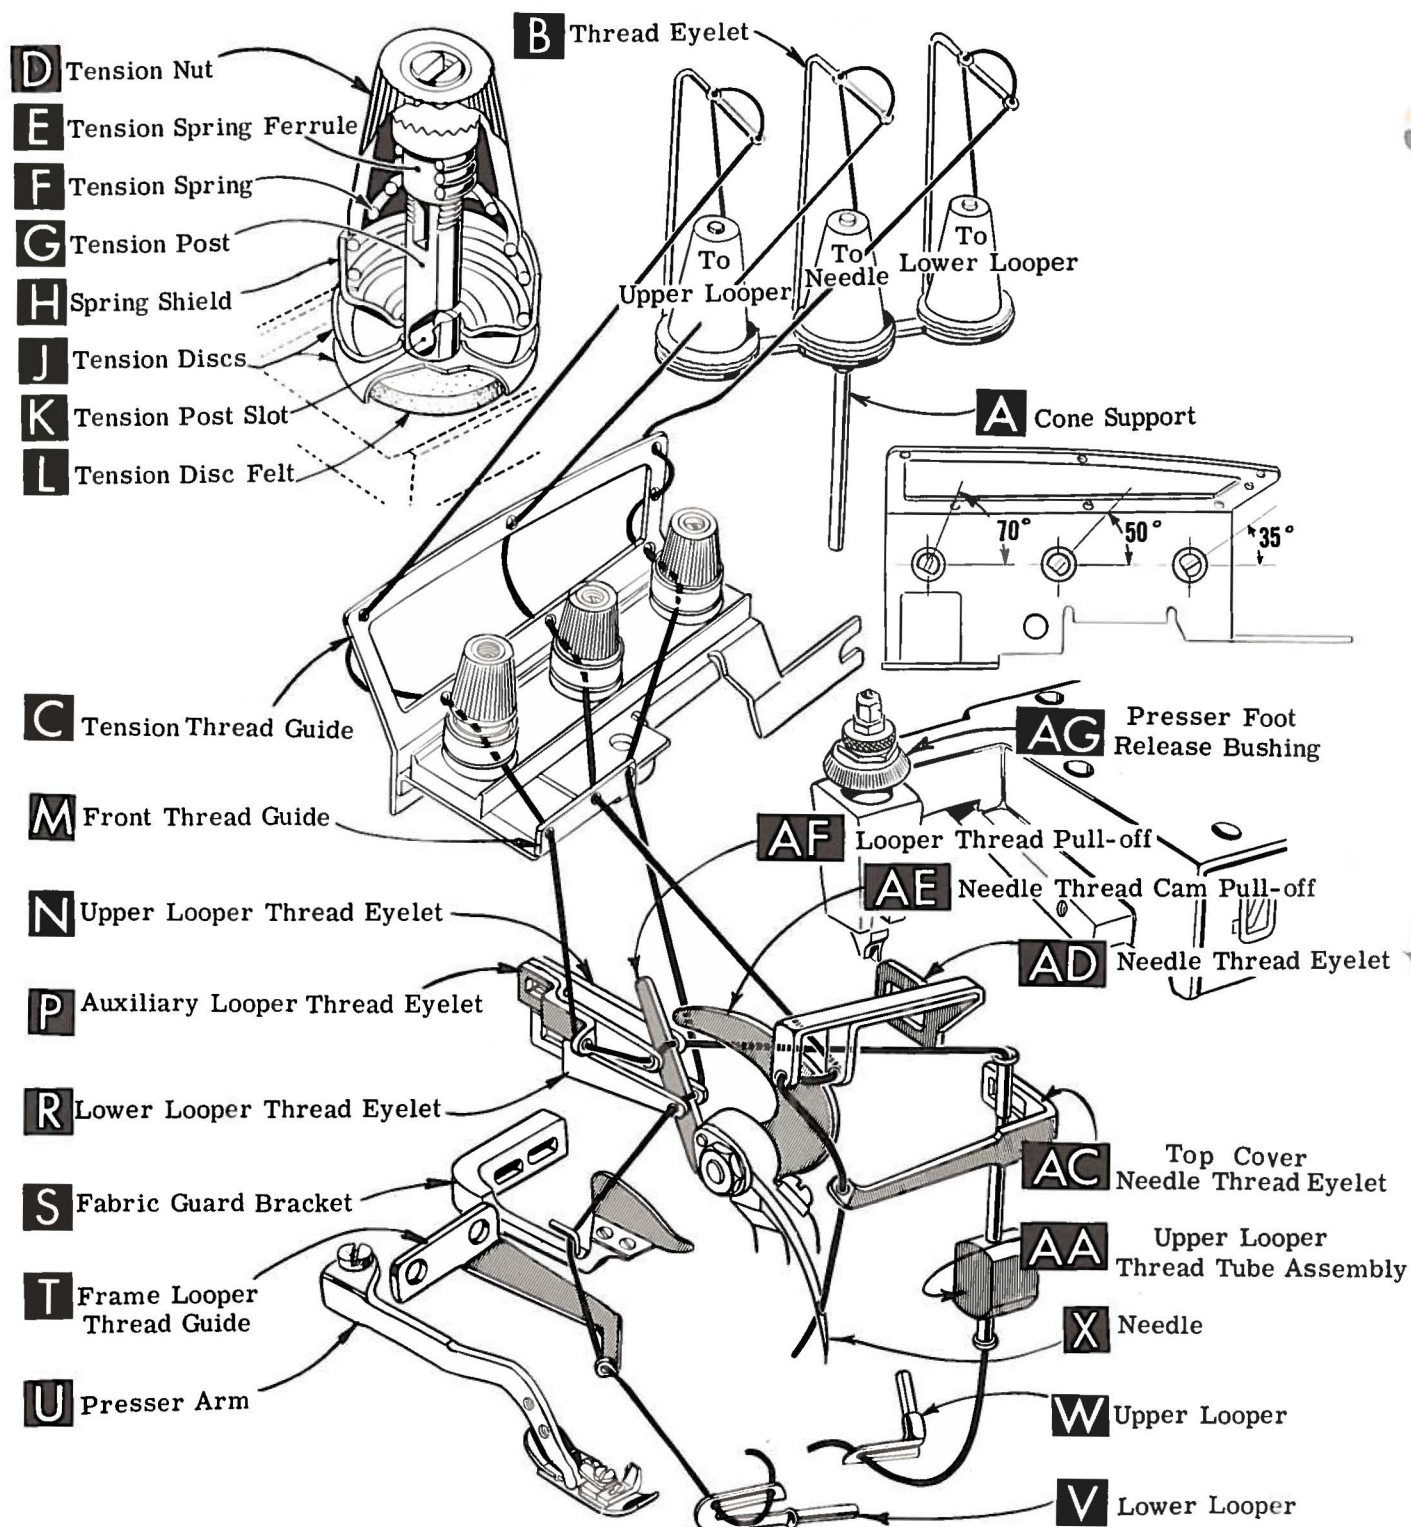
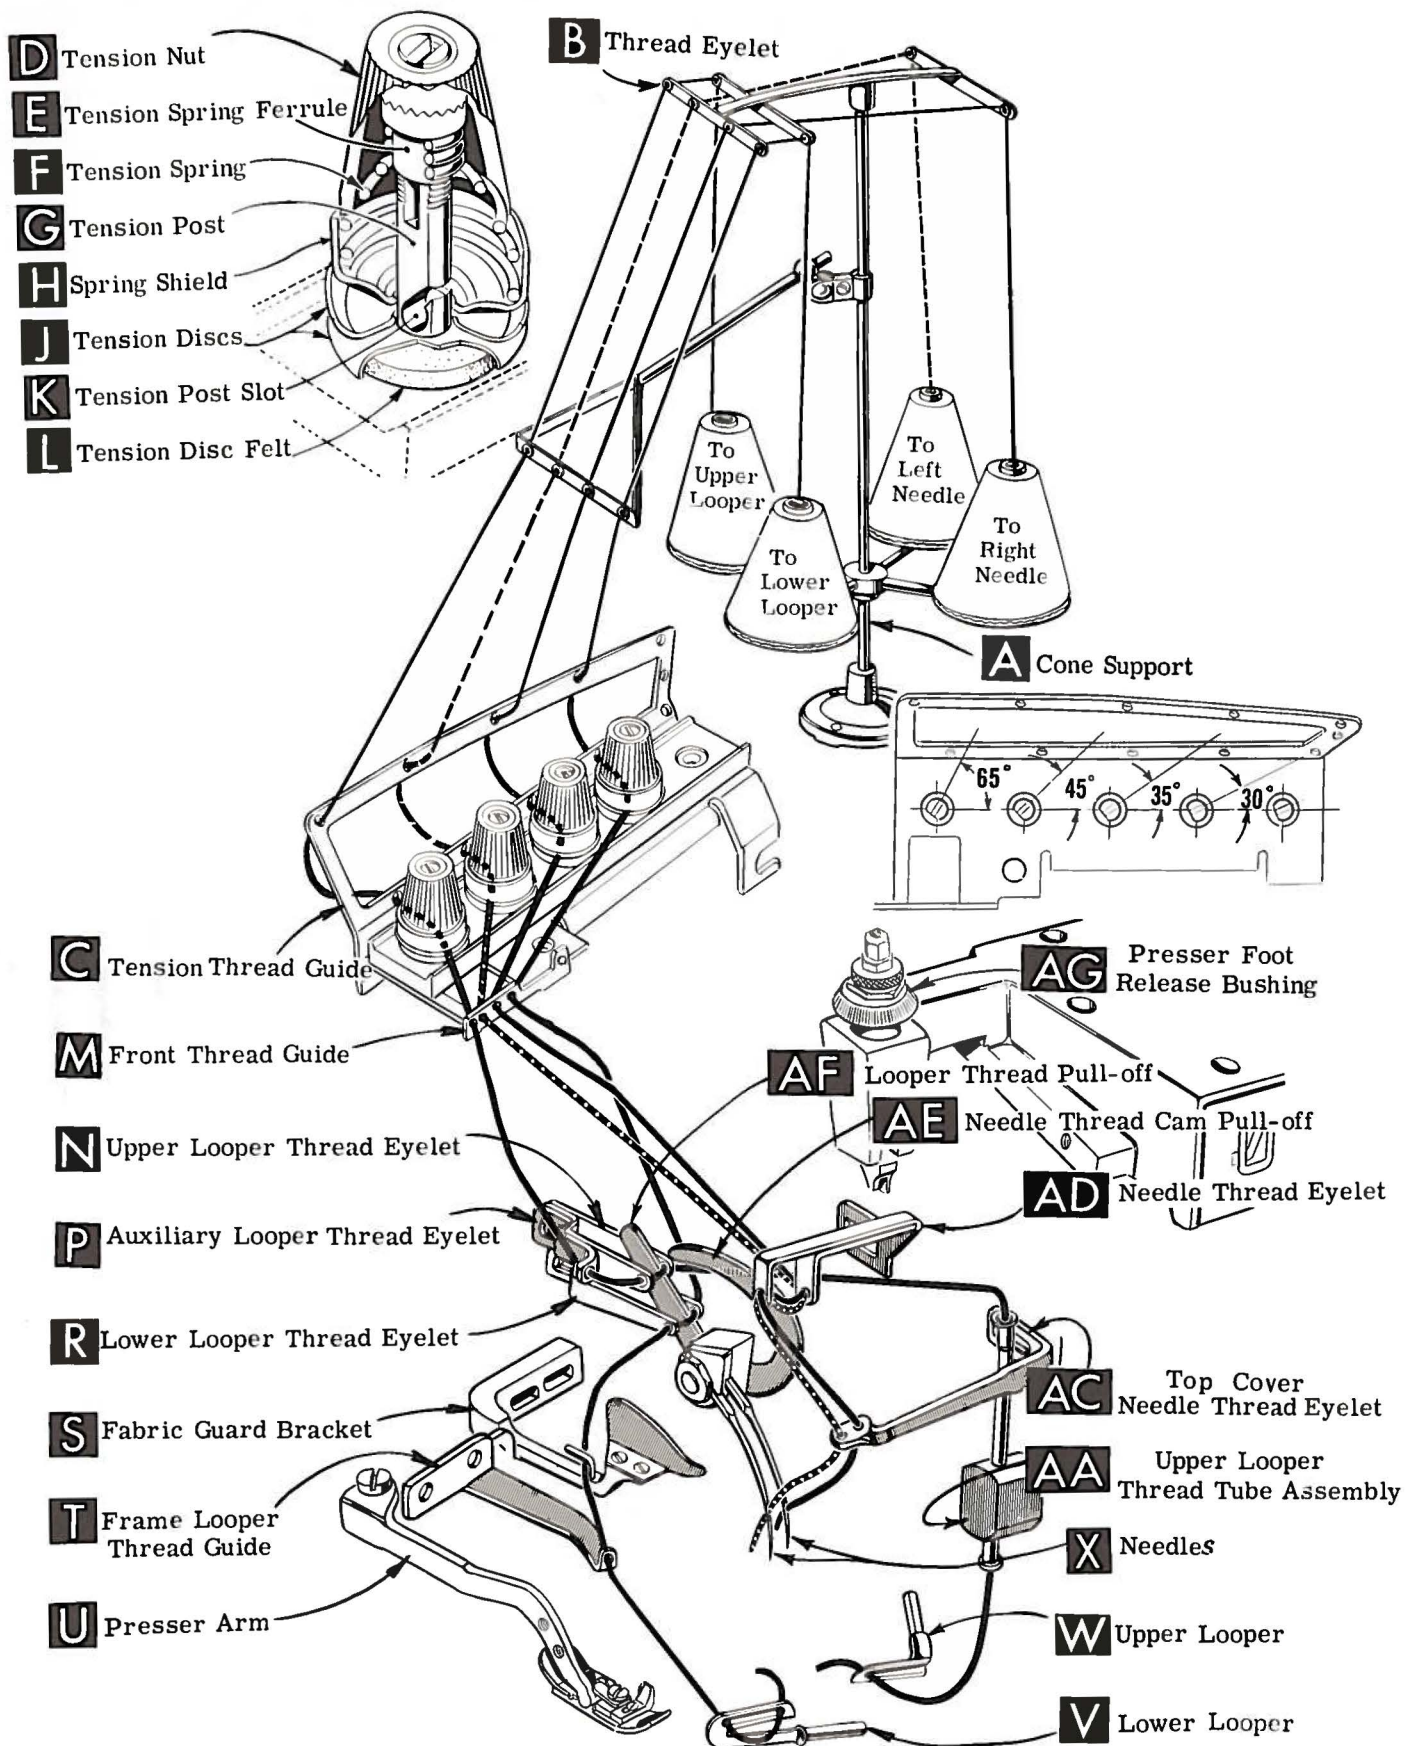

Fig. 1
Fig. 1A
Release pressure on presser foot by turning presser foot release bushing (AG, Fig. 1 and 1A) and swing presser arm (U) out of position. Turn handwheel in operating direction until needle is at its lowest point of travel. Using hexagonal socket wrench No. 21388 AU, furnished with machine, loosen needle clamp nut about 1/4 turn. Again turn handwheel until needle is at high position; withdraw needle.
After thread comes from cones on cone support (A, Fig. 1), it is brought up through back hole of thread eyelet (B), then down through the front hole of thread eyelet. Next it is threaded through the upper holes of tension thread guide (C) from front to back and then through the lower holes from back to front. It should be noted that the lower looper thread is threaded through the tension thread guide (C), first through the upper hole back to front, second through the middle hole front to back and third through the lower hole back to front. All threads then continue between the tension discs (J), through tension post slot (K) in tension post (G) and on through front thread guide (M).
After thread comes from cones on cone support (A, Fig. 1A), the needle threads are threaded through the back bar of the thread eyelet (B), under the middle bar and through the center holes of the front bar. The looper threads come from the cones, through holes of the middle bar from back to front and then through the two outside holes of the front bar. Next it is threaded through the upper holes of tension thread guide (C) front to back and then through the lower holes from back to front. The threads continue between the tension discs (J), through tension post slot (K) in tension post (G) and on through front thread guide (M).
NOTE: Refer to Fig. 1 for threading Styles 39500 FS, FT, FU, GT and JP, or refer to Fig. 1A for threading Styles 39500 GD and GL.
Only parts involved in threading are shown in threading diagrams (Fig. 1 and 1A). Parts are placed in their relative positions for clarity.
The threading in Fig. 1 and Fig. 1A are the same, the only difference will be the threading of two needle threads in Fig. 1A as compared to one needle thread in Fig. 1. The additional needle in Fig. 1A moves the lower looper thread tension post to the right.
Be sure the threads, as they come from the tension thread guide (C), are between the tension discs (J) and in tension post slot (K) in tension post (G). The tension posts should be positioned so the tension post slot will be at the approximate angle for the different threads as indicated in Fig. 1 and 1A.
Double end of thread and lead it through both eyes of lower looper thread eyelet (R, Fig. 1 or 1A) from right to left. NOTE: Thread must pass in front of looper thread pull-off (AF). Lead thread behind fabric guard (S) and through hole of frame looper thread guide (T). Turn handwheel in operating direction until heel of lower looper (V) is all the way to the left; then thread through both eyes from left to right. Left eye of lower looper can be threaded easily if tweezers are in left hand.
Turn handwheel in operating direction until needle (X, Fig. 1 or 1A) is at its highest position. Insert needle thread or threads from right to left, through both eyes of needle thread eyelet (AD), under neck of top cover casting; and then down through hole or holes in top cover needle thread eyelet (AC). Thread needle from front.
The amount of tension on needle and looper threads is regulated by tension nuts (D, Fig. 1 or 1A). Tension on threads should be only enough to secure proper stitch formation.